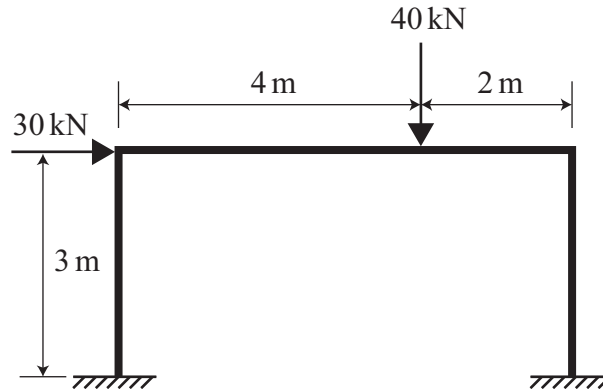

Figure 9
9. The light portal frame shown in Figure 9 has full strength joints and fixed feet. the fully plastic moment, M_p , is 60 kNm for the beam and 40 kNm for each column. The frame is to carry working loads as shown. Determine the load factor, λ , that, when applied to both loads together, will cause the frame to collapse plastically. Use a work calculation for various hypothetical mechanisms.